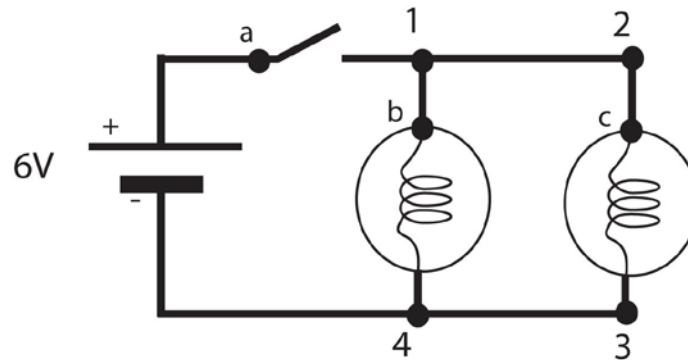

Figure 3: Parallel Circuit
4. Is the circuit in Fig. 2 or Fig. 3 more of a power drain on the battery? Explain.